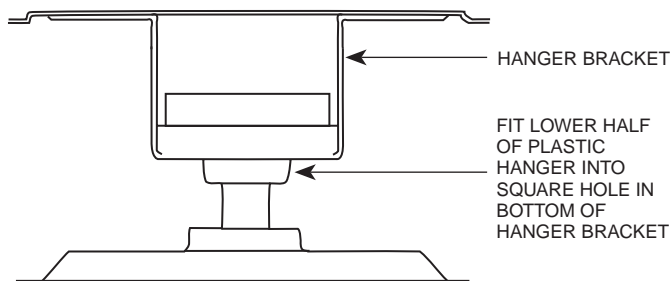

FIGURE 5A
B. Rotate the motor and plastic hanger assembly until the lower half of the plastic hanger fits into the square opening in the bottom of the metal bracket. Check the assembly by trying to rotate the motor and plastic hanger assembly. When properly installed the upper part of the plastic hanger will sit flat inside the hanger and the assembly will not rotate. See Figure 5A.